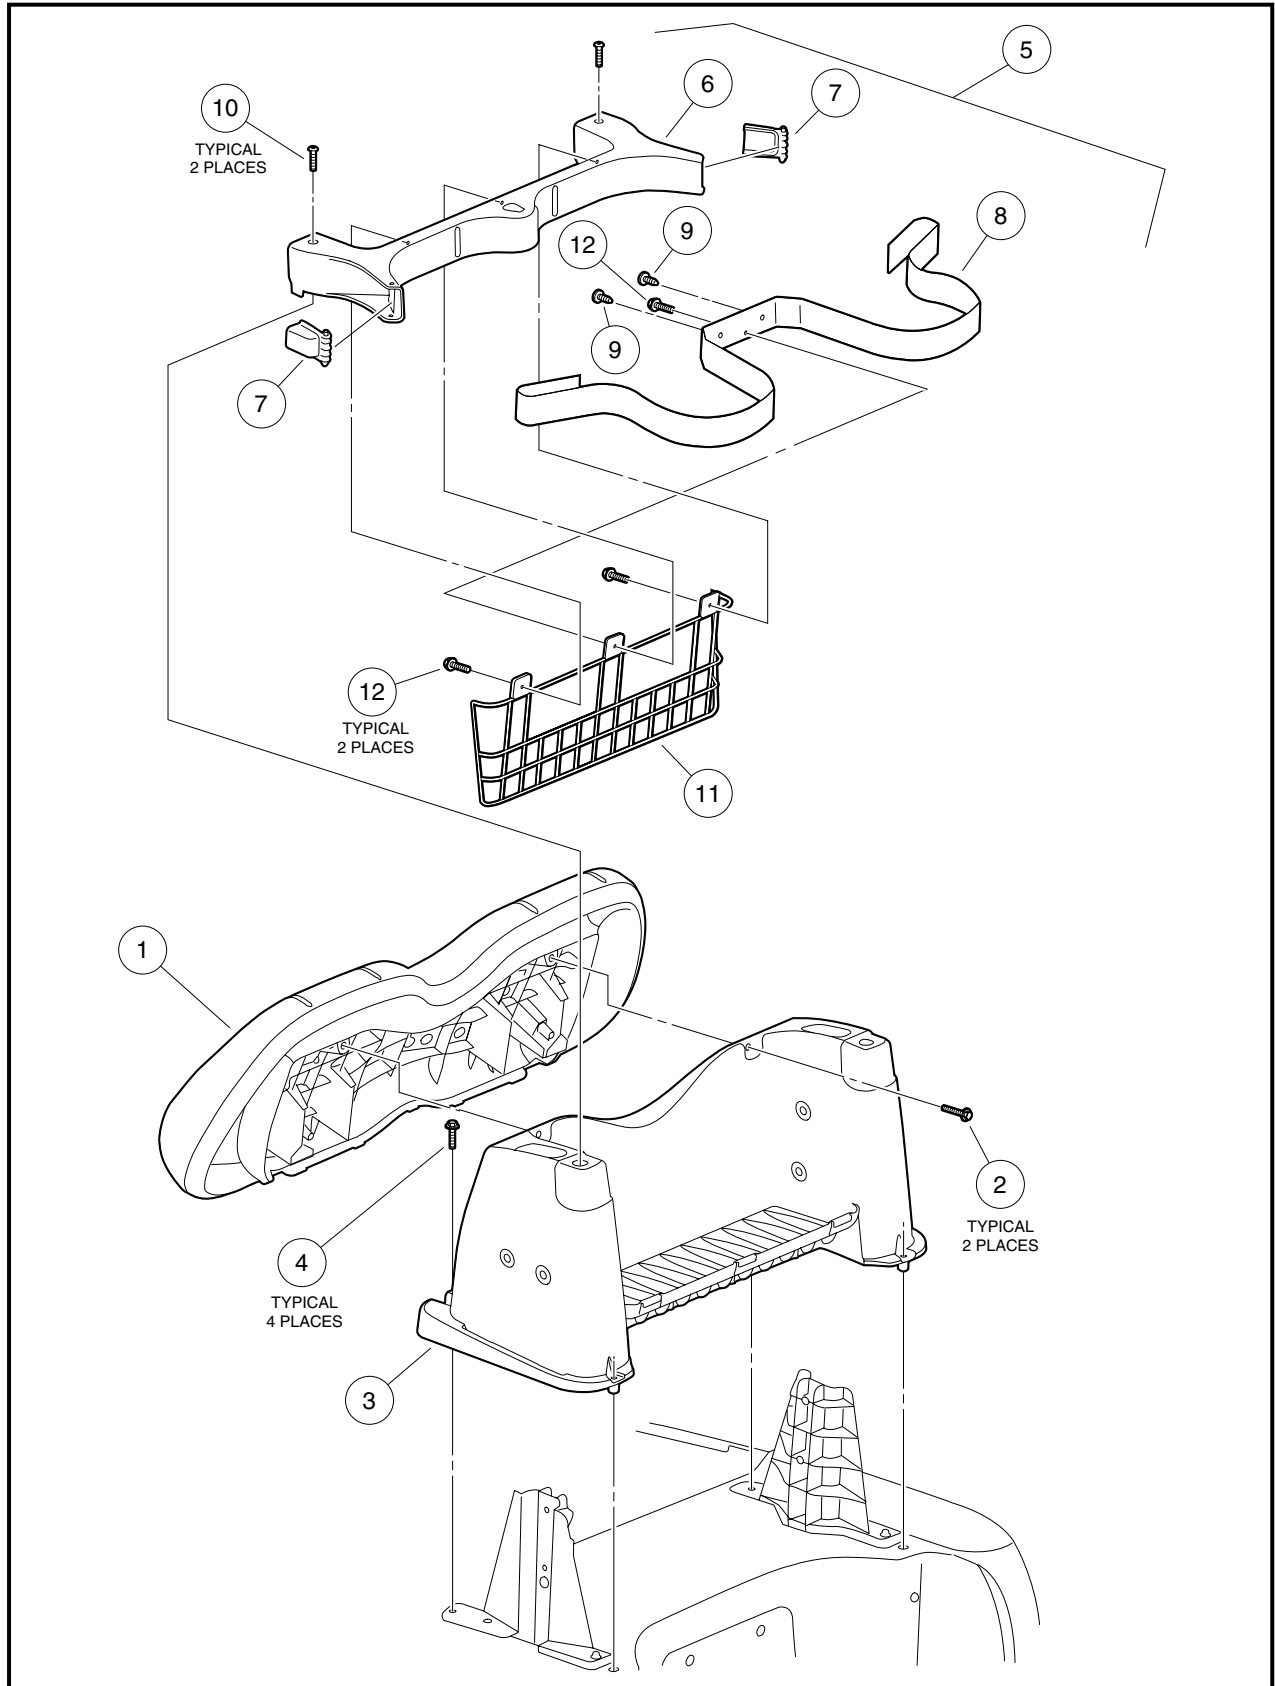

Figure 4-6 Backrest and SAM Disassembly
2. Remove four bolts (4) to release the SAM (3) from the vehicle (**Figure 4-6, Page 4-10**)
The backrest (1) is secured to the SAM (3) with two screws (2) (**Figure 4-6, Page 4-10**). When replacing the backrest, tighten screws (2) to 5.9 ft-lb (8 N·m).
1. Remove two screws (10) to release the bag hoop (6) and related components from the SAM (3) (**Figure 4-6, Page 4-10**).
2. Bag strap (8) may be released by removing two plastic barrel connectors (9) and one screw (12).
3. Bag strap buckles (7) may be snapped out of bag hoop (6).